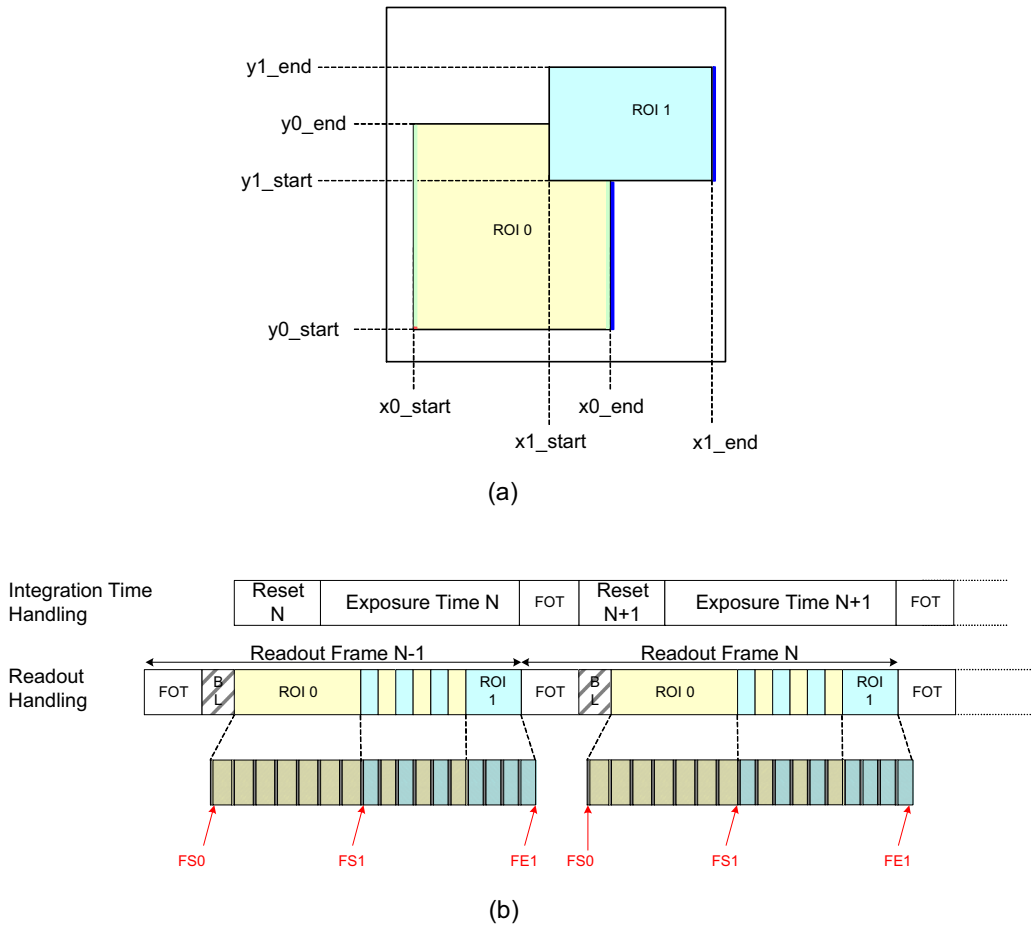

**Figure 30. Frame Sync Codes**
The frame format is explained by example of the readout of two (overlapping) windows, as shown in Figure 30 (a).
Figure 30 indicates that, after the FOT is complete, a number of lines which only include information of 'ROI 0' are sent out, starting at position y0\_start. When the line at position y1\_start is reached, a number of lines containing data of 'ROI 0' and 'ROI 1' are sent out, until the line position of y0\_end is reached. From there on, only data of 'ROI 1' appears on the data output channels until line position y1\_end is reached.
**NOTE:** Only frame start and frame end sync words are indicated in (b). CRC codes are also omitted from Figure 30.